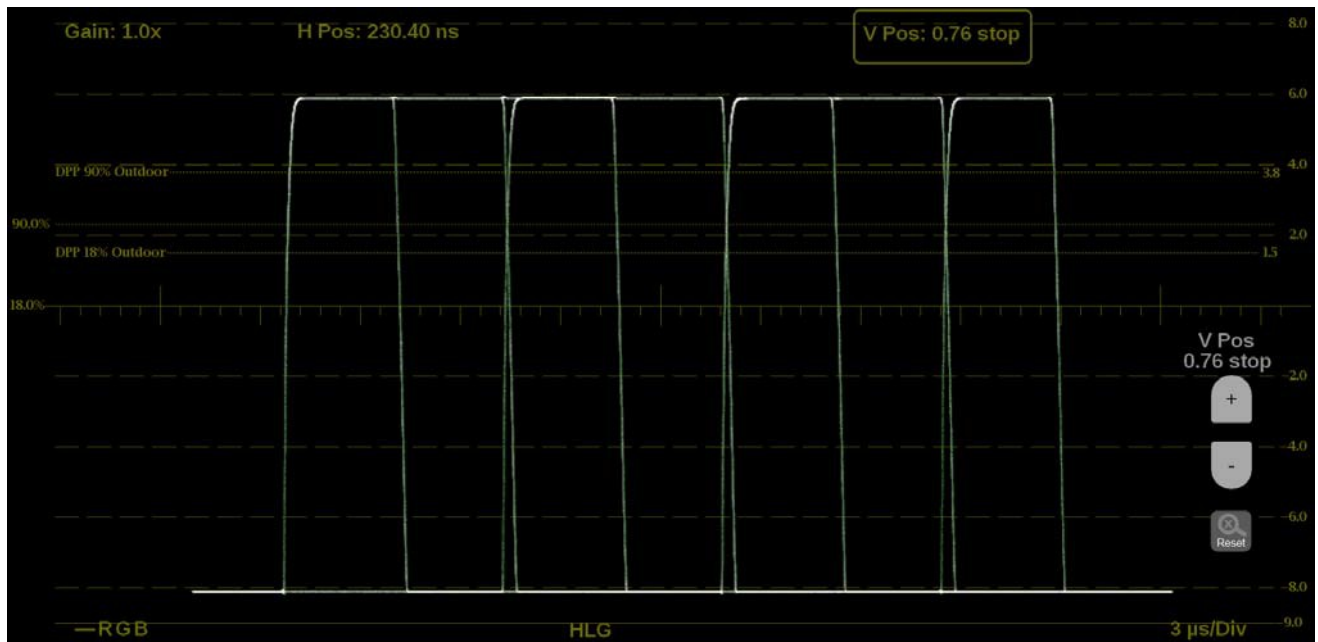

Figure 198: Stop Display on-screen tools – vertical position
2. Select the **V Pos** button to allow adjustment of the vertical trace. (See Figure 198.)